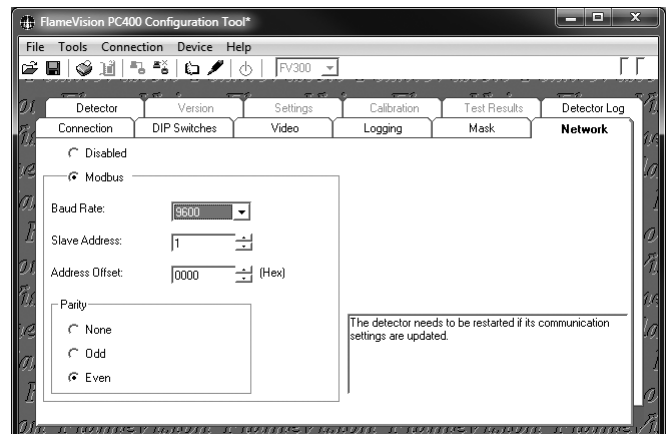

FIGURE 6-3
6. Confirm the following settings in the **Network** tab (see Figure 6-3):